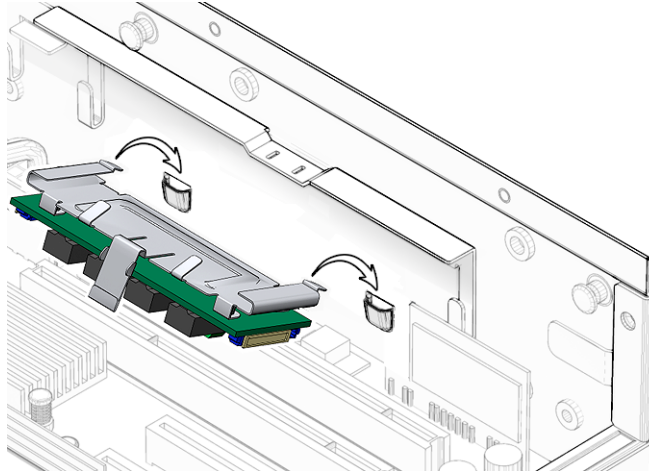

FIGURE 5-20 Aligning the Alarm Board With Chassis Wall
2. **Align the tabs of the alarm board with the slots in the chassis wall (FIGURE 5-20).**